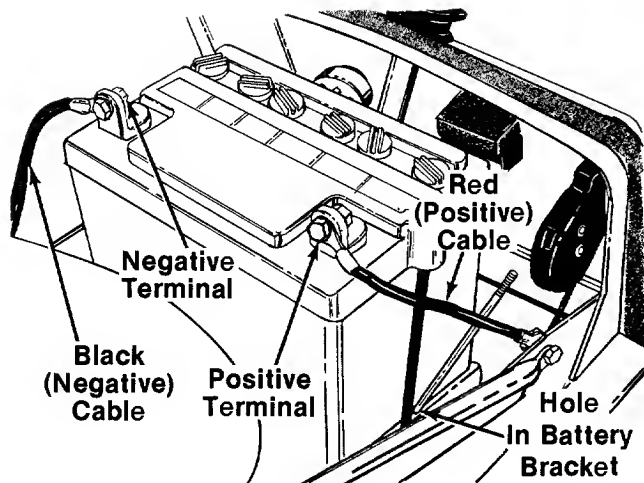
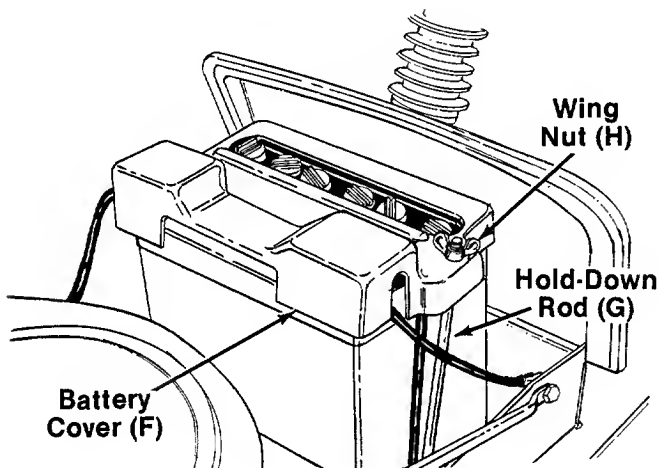

FIGURE 6.
FIGURE 7.
3. Slide the square nut (provided with battery hardware) into the positive (+) terminal. Place the positive (heavy red wire) cable on the positive terminal. Secure with screw provided. See figure 6.
5. Hook one hold-down rod (G) into the hole in the edge of the battery bracket beside the battery. See figure 6. Place the battery cover (F) in position over the hold-down rod. Secure with wing nut (H). Attach other hold-down rod to the other side of battery cover in the same manner. See figure 7.